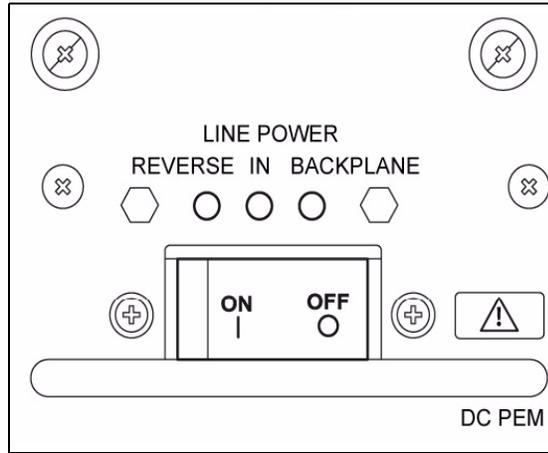

Figure 5.2 - PEM LEDs
12. Check the PEM LEDs (see **Figure 5.2**) and take the appropriate actions as listed in **Table 5.1**.